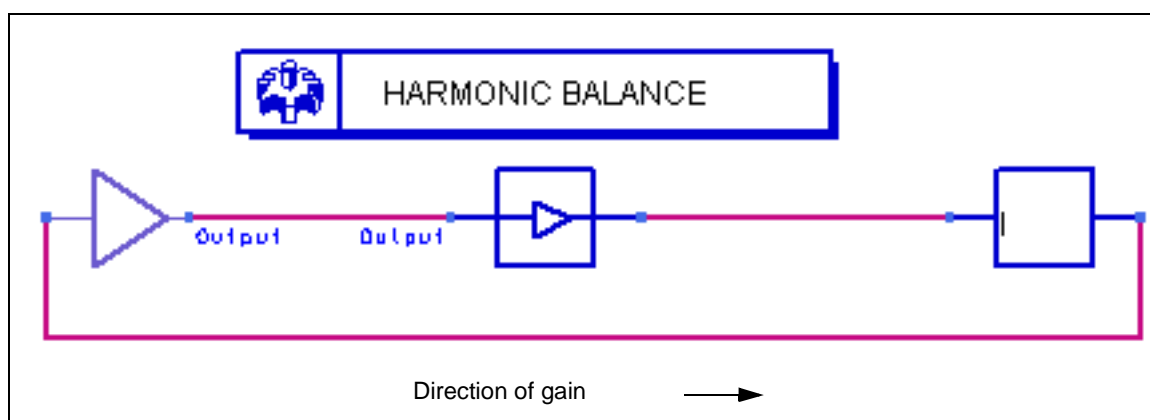

Figure 3-2. Example setup for a basic oscillator test using the harmonic balance simulator and the OscPort component
**Figure 3-2** illustrates a setup that uses the harmonic balance simulator and OscPort component.
- In a feedback oscillator, use this port to break the feedback path. The arrow (and pin 2) should point in the direction of injection (the direction of the gain). Refer to Figure 3-2.